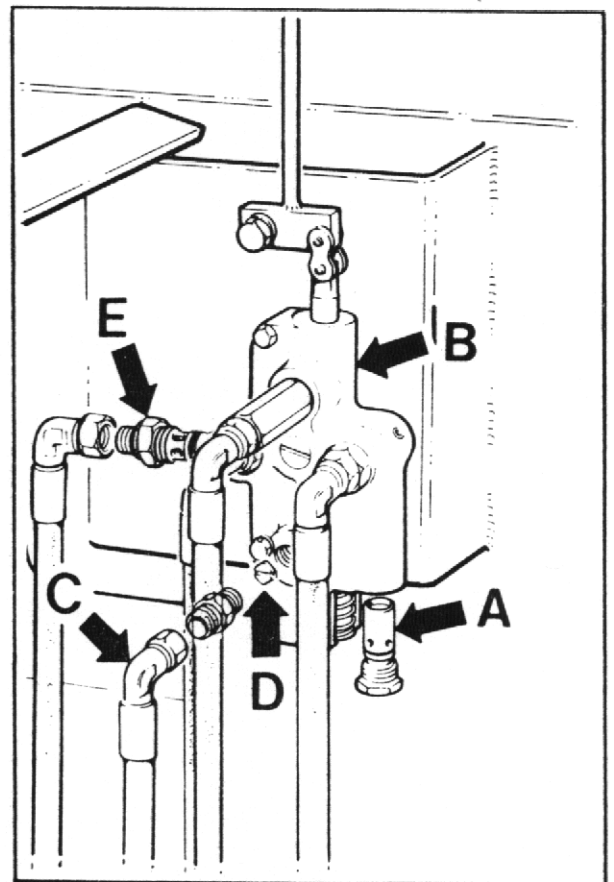

FIG. 9
4. Remove relief valve cartridge (A) (hexagon head) from the bottom of the control valve (B) (See fig.9) and replace with a new one.
5. Remove hose adaptor (C) from control valve (See fig.9), remove hexagonal orifice plate (D) and wash in white spirit. Dry using moisture-free compressed air. DO NOT poke wire etc., into the orifice. Re-fit plate and hose adaptor with slot of orifice plate facing outwards.
6. Remove relief valve cartridge (A) (hexagon head) from the bottom of the control valve (B) (See fig.9) and replace with a new one.